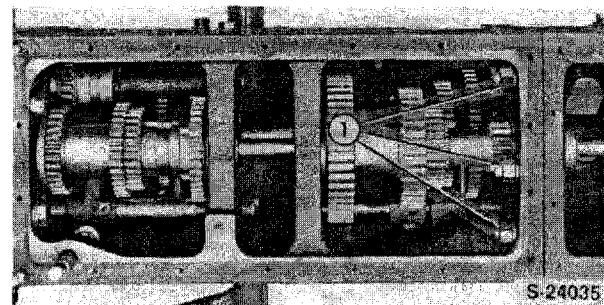

Figure 32
20. Remove the three internal buckle-up bolts (1), Figure 32.
25. Remove the internal buckle-up bolt (5), Figure 32.